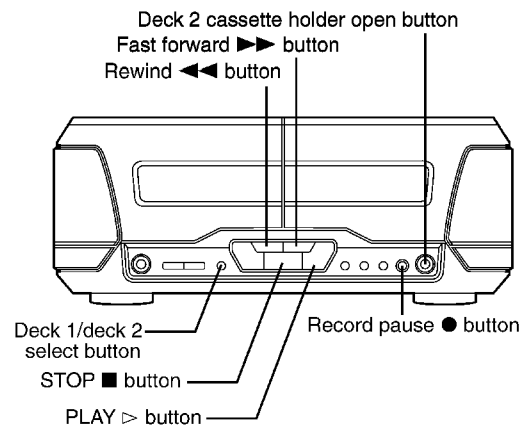

Fig. 5-3.
1. Press the Deck 1/deck 2 select button to change the flashing Deck 1 indicator to Deck 2. Refer to Fig. 5-3.
2. Press the Deck 2 cassette holder open button to open the Deck 2 cassette holder. Refer to Fig. 5-3.
5. Press the Fast forward button. Refer to Fig. 5-3.
8. Press the Rewind button. Refer to Fig. 5-3.
11. Press the PLAY button. Refer to Fig. 5-3.
14. Press the Record pause button. Refer to Fig. 5-3.
15. Press the STOP button. Refer to Fig. 5-3. A mechanism error code is displayed. Refer to Table 5-1. Each time the STOP button is pressed, the fault items are displayed in sequence.